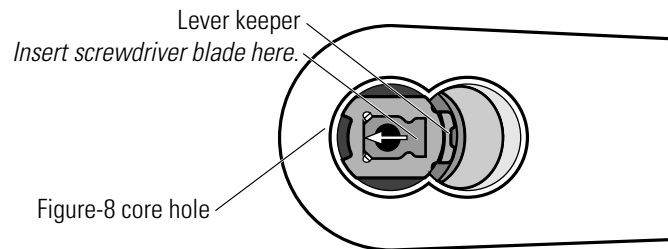

Figure 7.3 Removing the keyed lever
3. Press the screwdriver blade in the direction of the arrow shown in Figure 7.3.